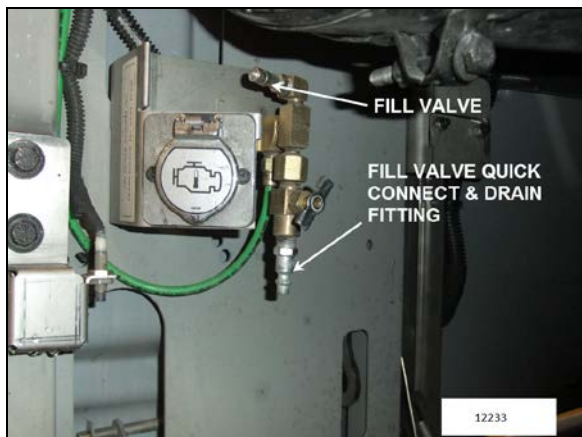

FIGURE 6: REAR VALVE LOCATION (typical)
The air dryer and wet tank may be purged simultaneously for maintenance purposes using the drain cock on the emergency air system fill valve located in the engine compartment and accessible through the engine compartment R.H. side door (FIGURE 6).
1. Release air dryer pressure by opening the air dryer drain valve (FIGURE 6).